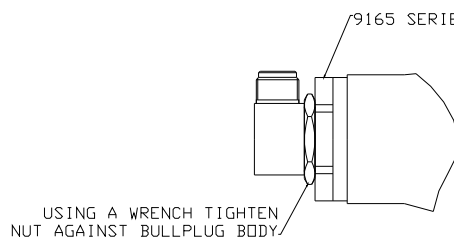

FIGURE 6
8. Screw lock nut to face of 9165 bullplug body and torque to 220 FT/LBS. SEE FIGURE 6